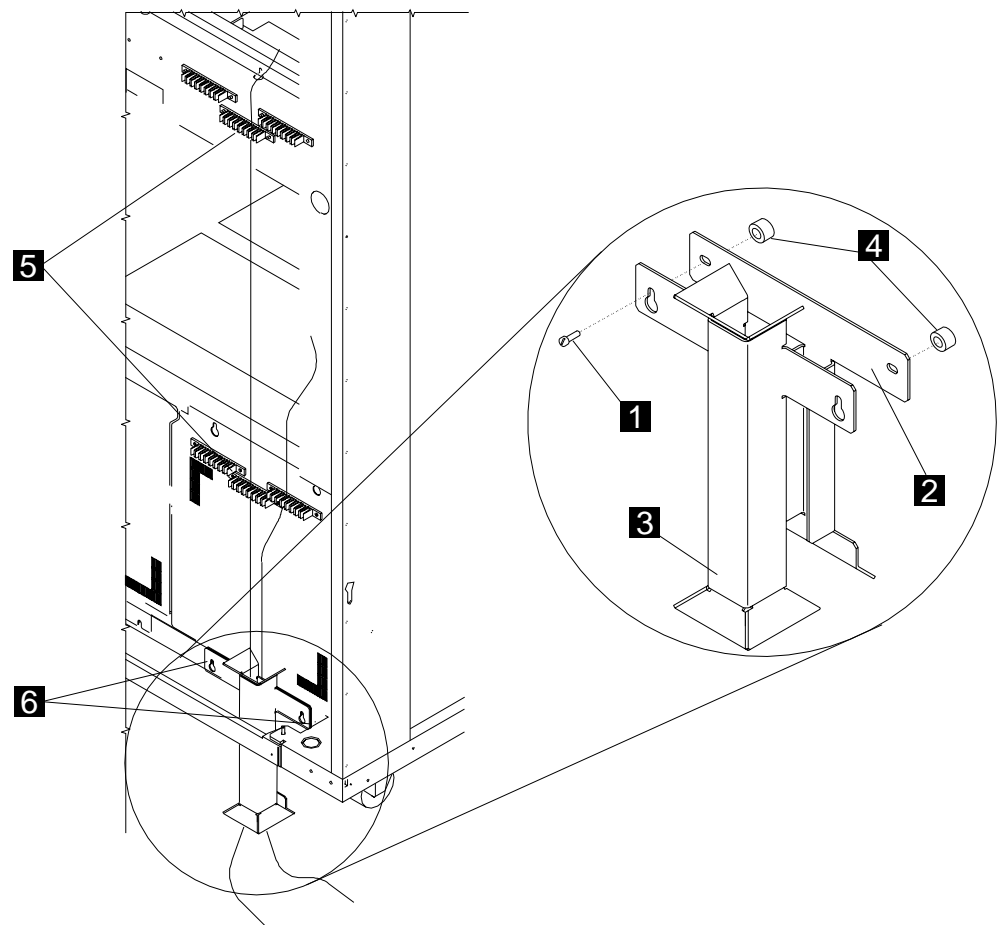

Figure 8-4. Routing the Optical Fibers
- If you have a bracket **2** with PN 58G5503 and the guide **3** with PN 58G5504 (see Figure 8-4) install as follows:
- Step b. ___ **Install** the two spacers **4** (PN 58G5711) and the bracket **2** (PN 58G5503) using two screws **1** (PN 1621214) See Figure 8-4